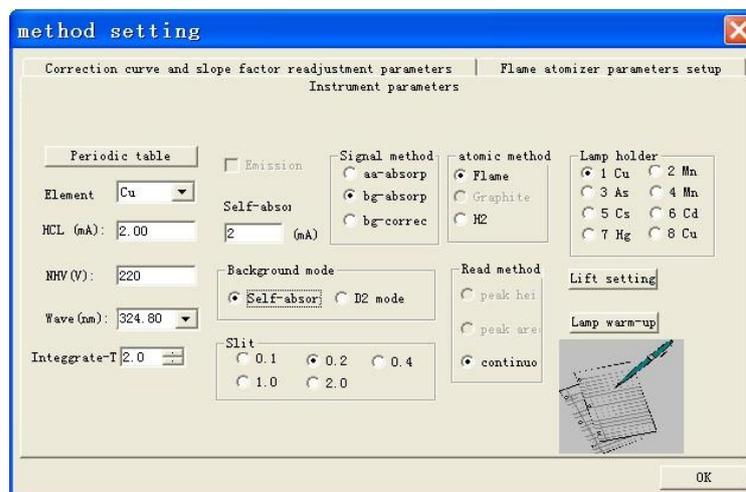

Figure 6-14
5. Select element Cu, select "Background correction" for the signal mode and "Self-absorption" for the background mode, and set other parameters as shown in Figure 6-14.